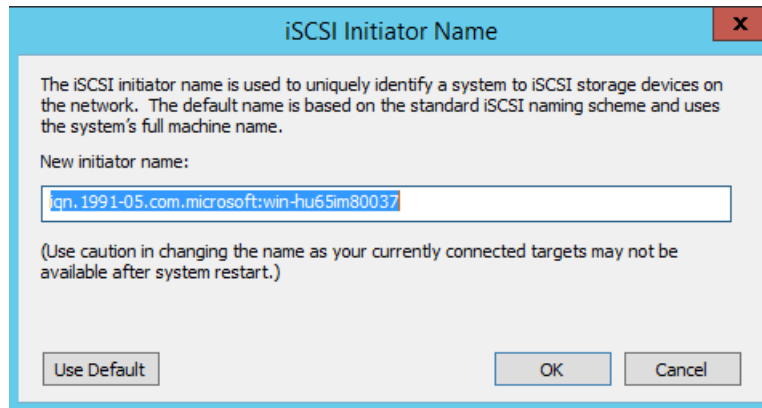

Figure 9-18. iSCSI Initiator Node Name Change
- c. In the iSCSI Initiator Name dialog box, type the new initiator IQN name, and then click **OK**. (Figure 9-18)